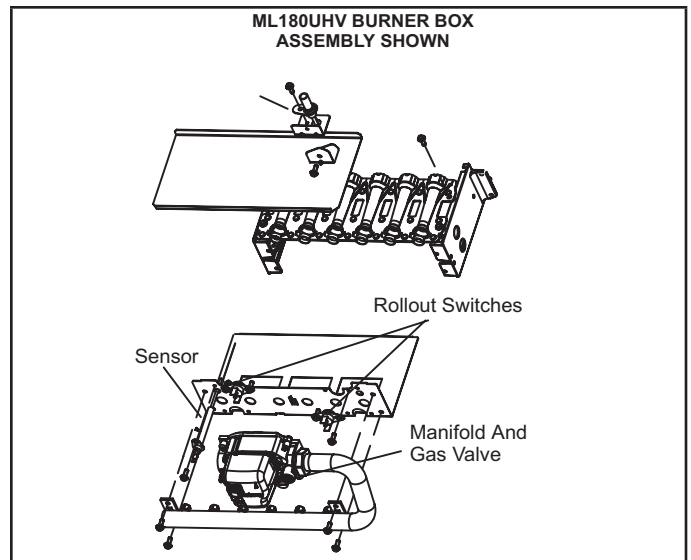

Figure 3
- 4 - Remove the four manifold securing screws. Remove the manifold/gas valve assembly. Replace the main burner orifices with the provided orifices. Torque to approximately 35 in-lbs. See figure 3.